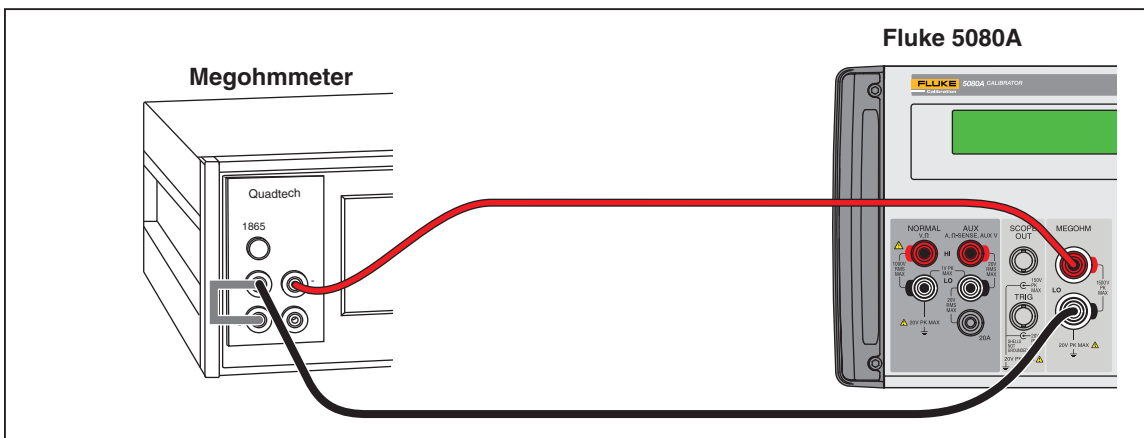

Figure 6. High Resistance Verification for 1 GΩ and higher
- Connect the Calibrator directly to the megohmmeter as shown in Figure 6. Make sure you reverse the polarity.